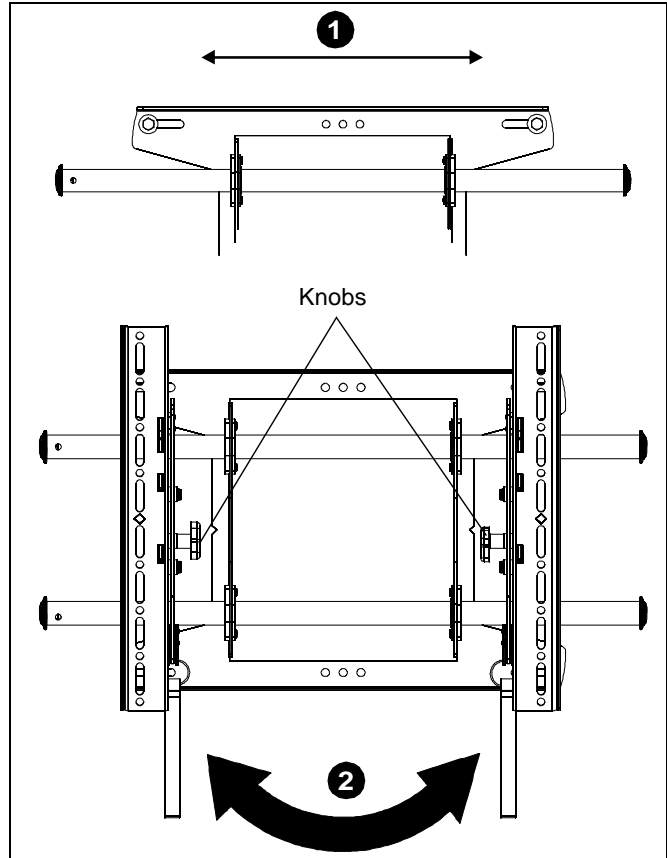

Figure 6
- The wall bracket may be adjusted side to side at the points of attachment. (See Figure 6)
- The location of the left and right interface brackets may be switched, with the knobs on the MTA interface brackets facing the inside of the mount. (See Figure 6)